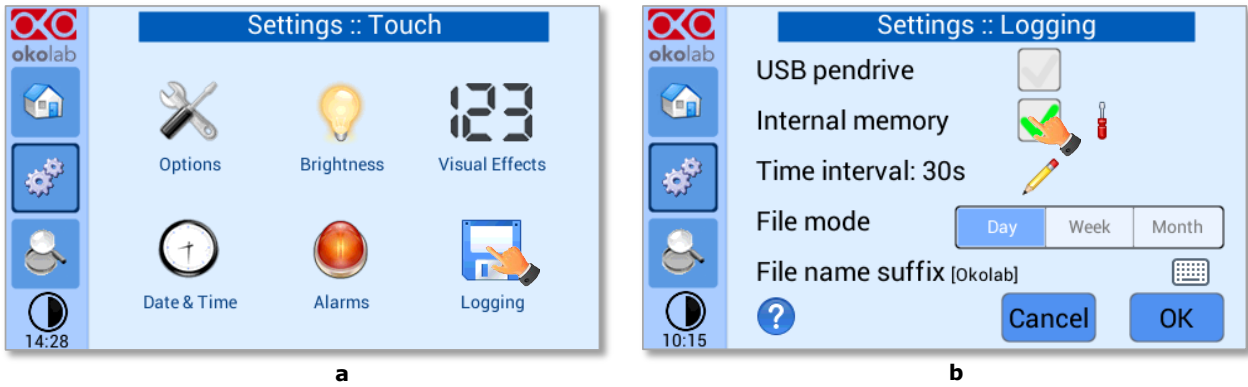

Figure 58. Logging. (a) How to enter in the logging menu; (b) logging in internal memory.
2. Press on *Logging* icon  (see Figure 58 a) and flag *Internal memory* in the page that appears (see Figure 58 b).